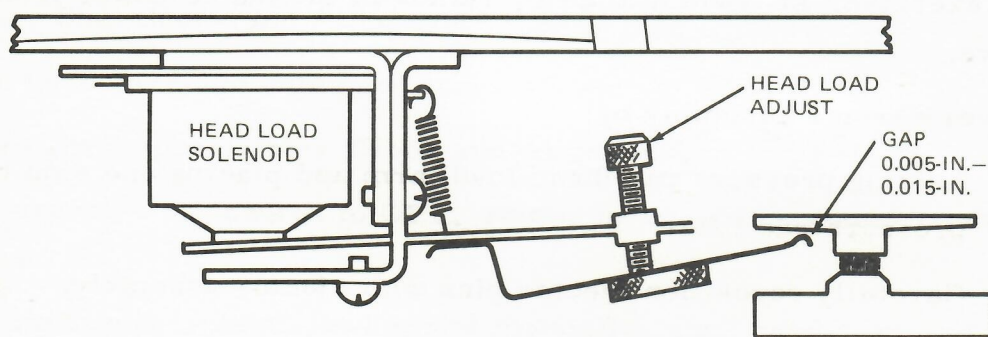

Figure 3-6. Head Load Adjust, Head Engaged
- g. Verify that a gap exists between head load solenoid tang and pressure pad (load) arm (see Figure 3-6).
- j. Perform Index Pulse Detector Alignment procedure if INDEX pulse does not occur as shown in Figures 3-6 and 3-7.